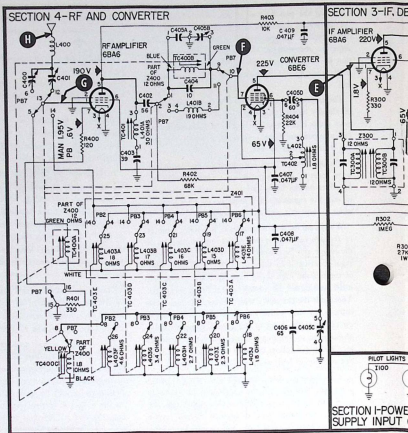

FIGURE 1
Step 1—The signal generator should be set on "audio" and also applied directly across points A and B with the 'scope attenuator on 1 (for accuracy, it is recommended that a cross-hatched 'scope overlay of 10 lines to the inch be used). Vary the signal generator output to get a vertical deflection of an inch or so, note the exact deflection in lines covered, and then place the generator output on the grid of the 6C4 phase inverter (point "C" in fig. 1). Change the 'scope attenuator to 10 or 100 as necessary to bring the sweep within the limits of the CRT. Note the deflection, place this quantity over the number of lines first noted and multiply by the setting of the attenuator. The result will be the gain of the phase inverter and the push-pull amplification of the two 6AQ5 tubes. If we were checking a set employing single output, we could check that stage separately, but checking push-pull is not practical as the output from the two tubes is equal to more than twice that of one tube and may range as high as three times in a class "A" amplifier.